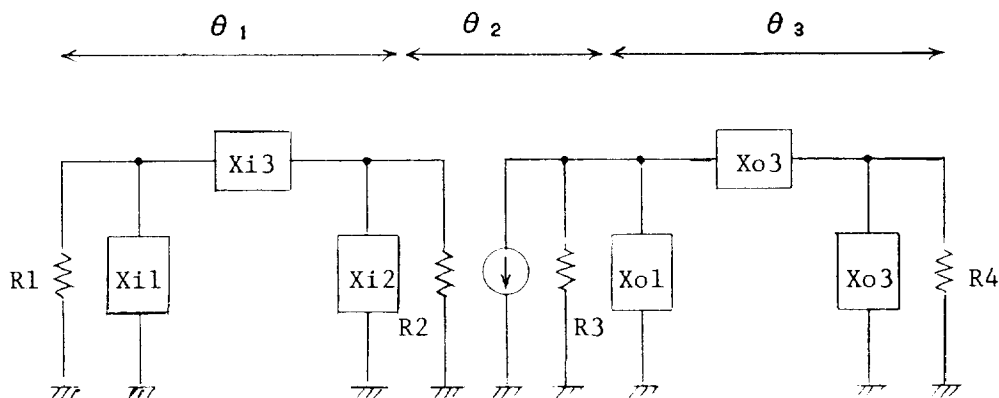

Fig.8-5 Amplifier and two networks
(3) Calculation of Network Circuit
Fig.8-5 shows amplifier and two tuning networks. Here, R1, R4 are the impedance determined in (2), and R2, R3 are input/output impedance of amplifier respectively. Suppose the phase shift through Network-1, Amp, Network-2 are θ_1 , θ_2 , θ_3 , respectively. Then,